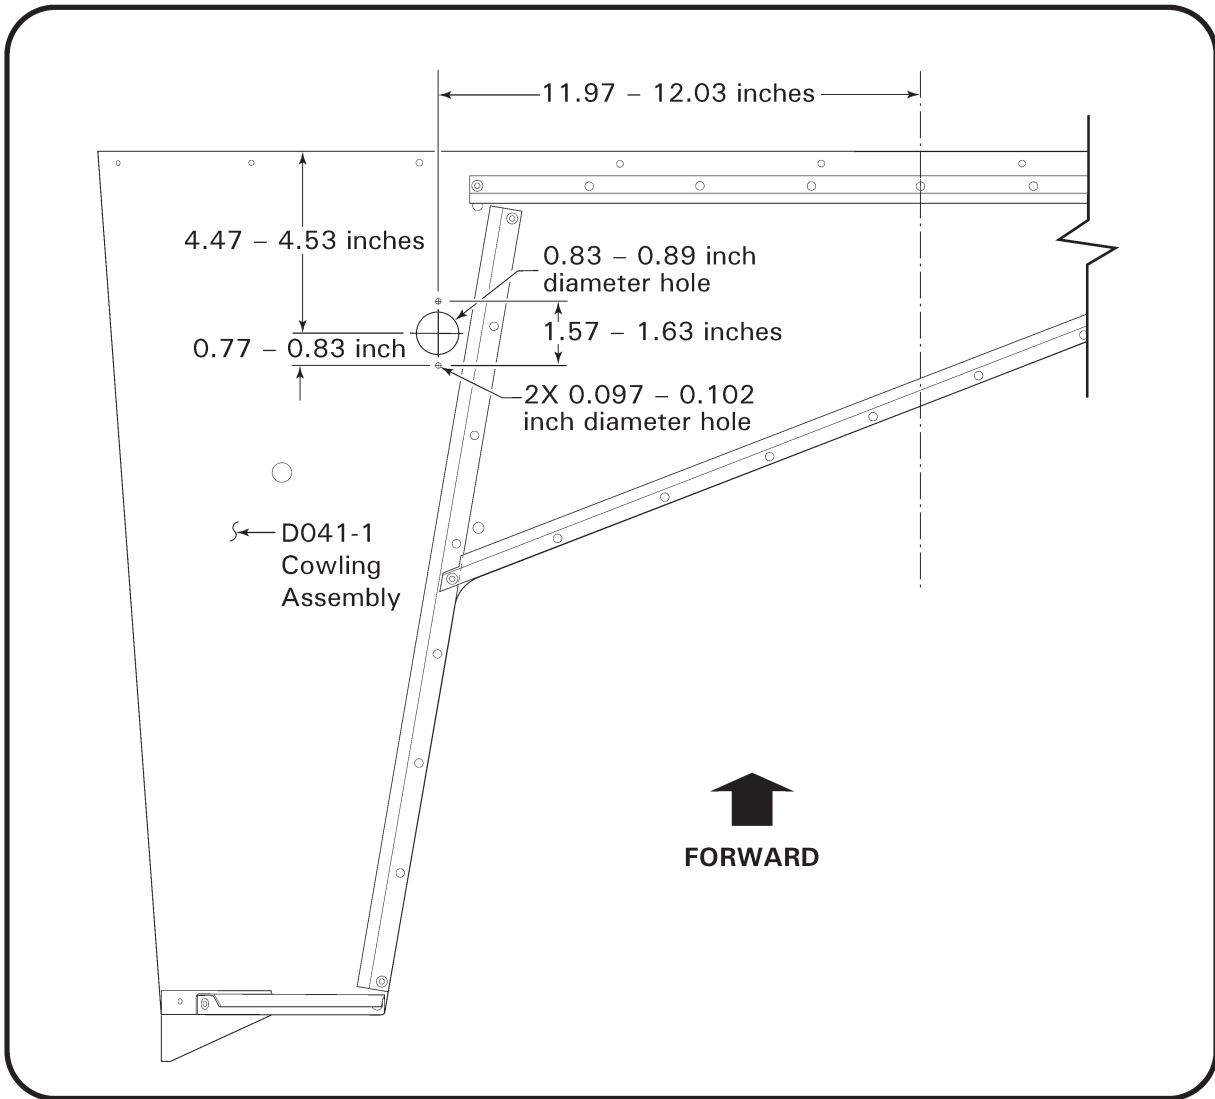

FIGURE 2 Lithium-Ion vent hole drill location
9. Refer to Figure 2. Lay out location for 0.86 inch diameter hole and (2) 0.097-0.102 inch diameter holes on D040-1 cowling assembly as shown.